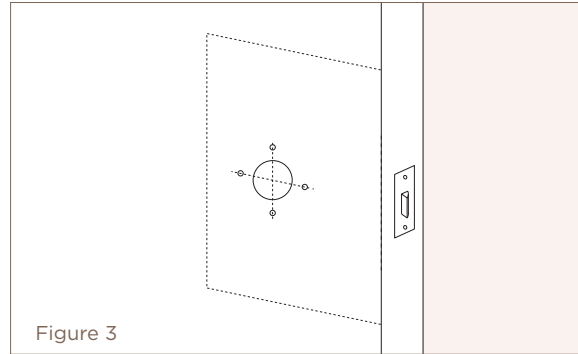

Figure 3
- 3.3 Drill the centre spindle hole using a 25mm or 1" spade bit from both sides of the door. Figure 3.